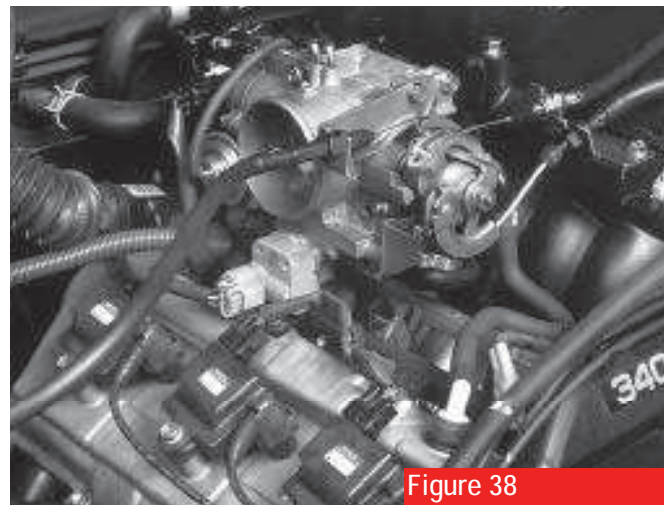

Figure 38
14. Using your diagrams, and those in the back of this manual, double check the routing of vacuum hoses, cables and brackets and correct any problems **(figure 38)**.
18. Apply a TRD belt routing sticker and the Executive Order (EO) label to the underside of the hood. The EO will alert state smog inspectors that the TRD supercharger has been certified emissions legal in all 50 states.